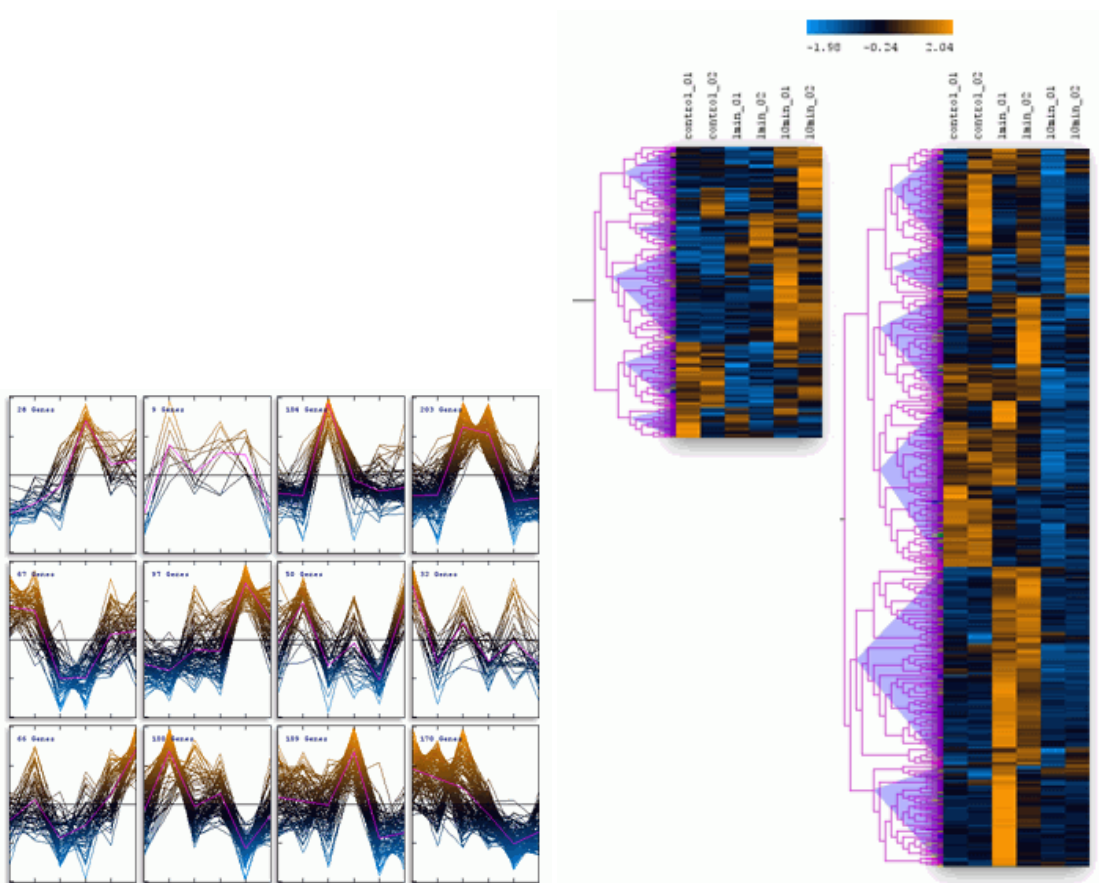

Figure 5.55.: Combined expression profiles in 12 clusters.
- A new section called Gene Tree Cut is created in the left hand side of the display (fig. 5.55 on page 93).